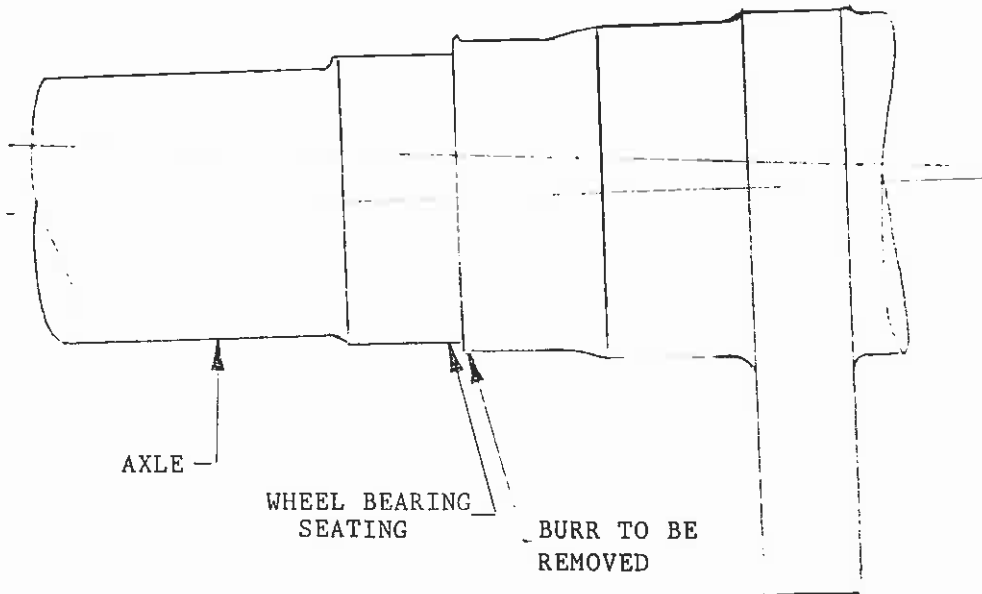

FIG 1
1. At next removal of wheel inspect axle for burring Ref. Fig. 1.